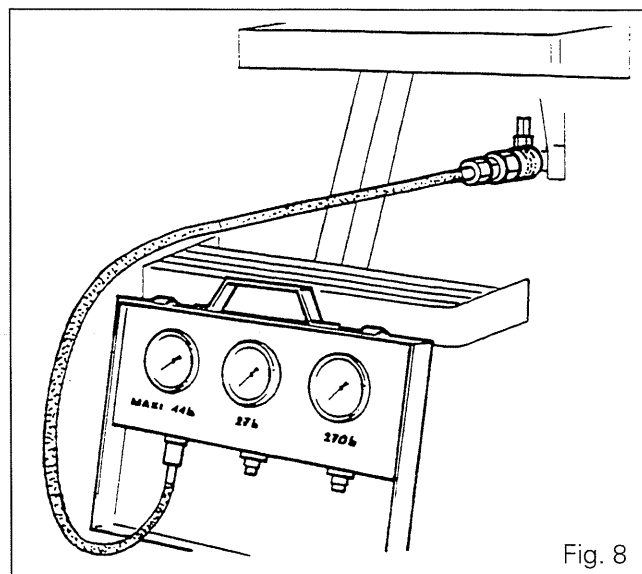

Fig. 8
- Install a diagnostic point on the lubricating system at the gearbox inlet (Fig. 8).